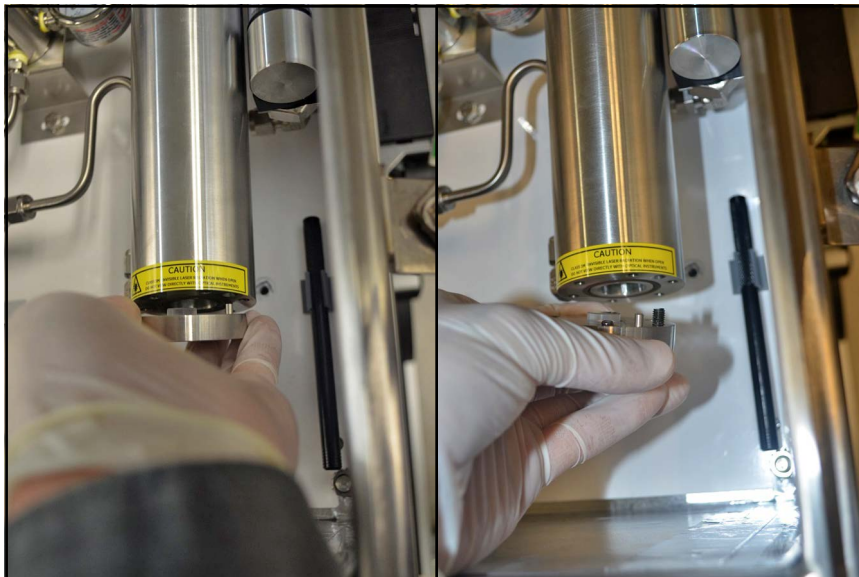

Figure 92: Reinstalling the Mirror End Cap Assembly
11. As you line up the mirror with the measurement cell, note the “key” for properly connecting the two pieces. The mirror will align for mounting in only one position. Rotate the mirror assembly to line up the alignment pin with the alignment pin slot (see *Figure 92* below).